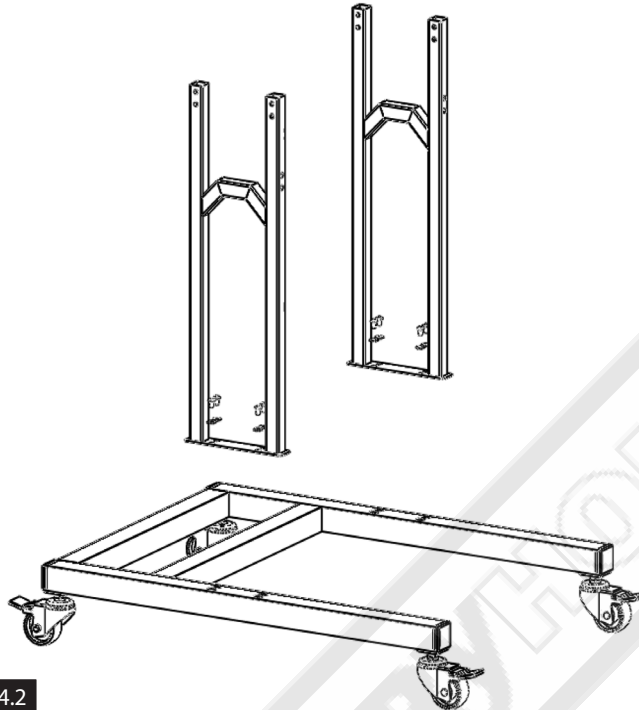

FIG. 4.2
2. Attach the (2) lower support legs to the base frame, with (8) 5/16" x 3/4" button head cap screws and (8) 5/16" flat washers, and finger tighten. (Fig.4.2)